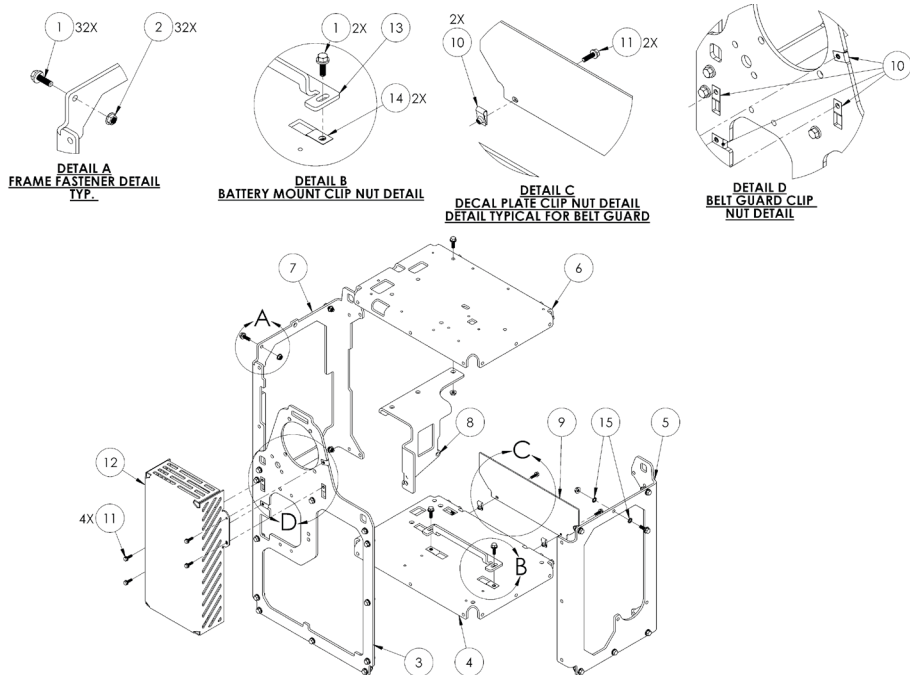

Figure 79 — Frame components
3. Frame Assembly, 9240018 (Figure 79)